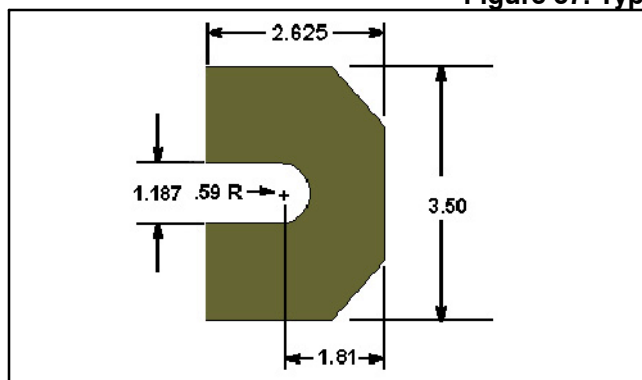

Figure 68. Puller Backing Plate
3. Puller backing plate; using A2 steel by 0.39 inch thick material, make plate following the dimensions in Figure 68.